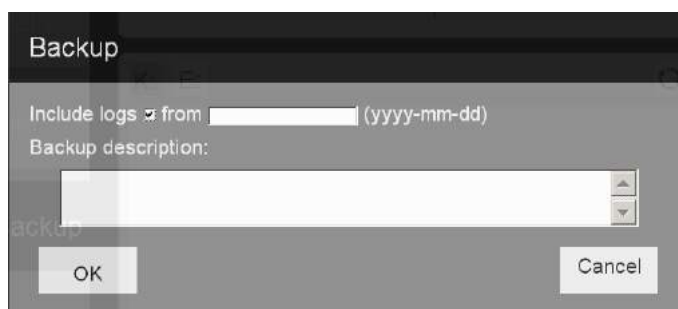

Figure 16.9. Include Logs Window
- If **Include logs** option is enabled, introduce the date from which the logs want to be included in the backup (Figure 16.9):